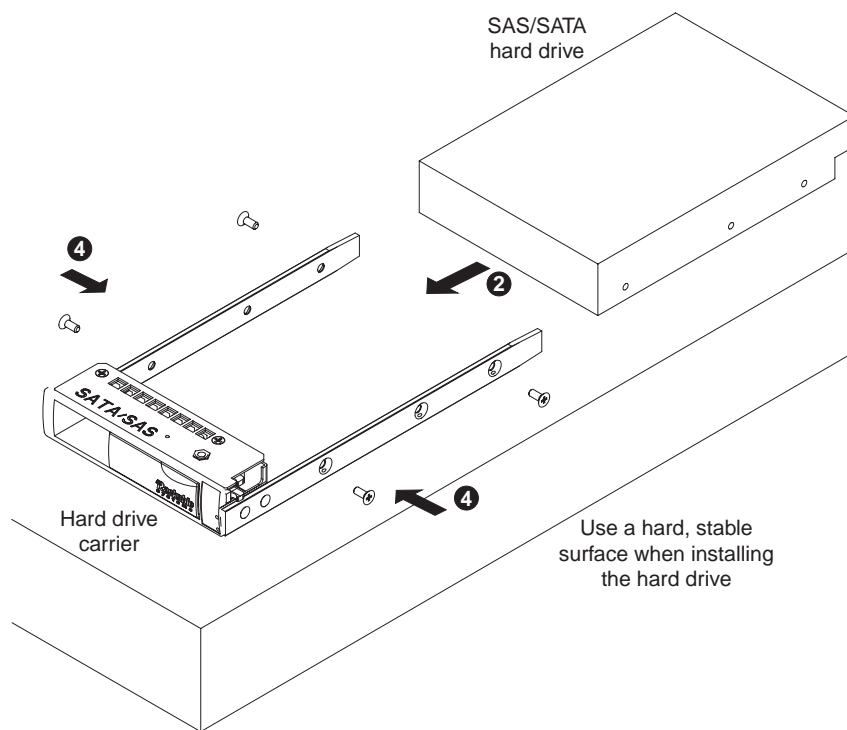

Figure 4-1 Inserting Hard Drive into Carrier
2. Slide the hard drive into the carrier with the printed circuit board side facing down (see Figure 4-1).
4. Secure the hard drive using all four screws (see Figure 4-1).